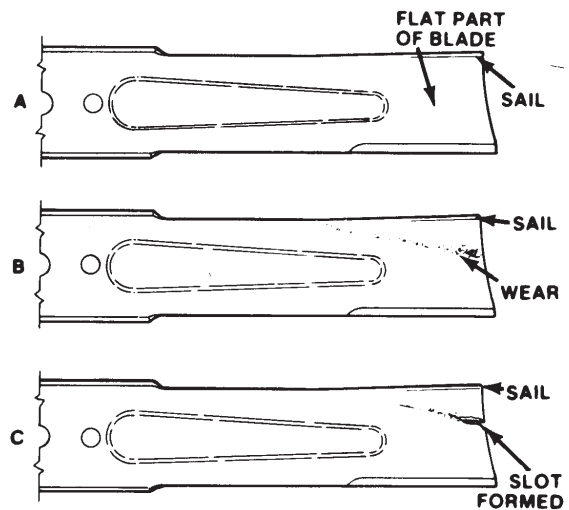

Figure 33
2. Examine the cutting ends of the blade carefully, especially where the flat and curved parts of the blade meet (Fig. 33-A). Since sand and abrasive material can wear away the metal that connects the flat and curved parts of the blade, check the blade before using the machine. If wear is noticed (Fig. 33-B), replace the blade; refer to Removing the Cutting Blade, page 21.
If the blade is allowed to wear, a slot will form between the sail and flat part of the blade (Fig. 33-C). Eventually, a piece of the blade may break off and be thrown from under the housing, possibly resulting in serious injury to yourself or bystanders.